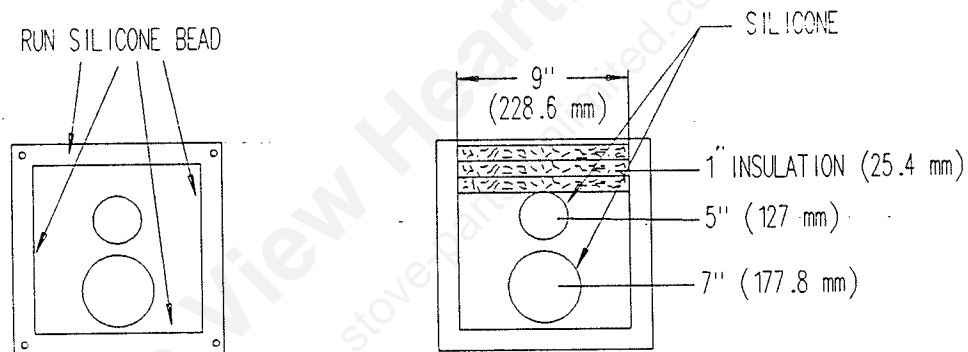

Figure 7
7. Taking the three pieces of insulation 1" (25.4mm) thick, 9" (228.6mm) wide, 12" (304.8mm) long provided with unit, measure and cut it the thickness of your exterior wall. Slide into position above 5" (127mm) exhaust pipe from the outside in. See Figure 7.
8. Next, take exterior faceplate position over pipes, slide until it fits flush against wall. Make a light pencil mark around edge of faceplate, take off faceplate and apply a 1/4" (6.35mm) to 3/8" (9.52mm) bead of silicone on the inside of pencil mark all the way around. After this is done slide the faceplate back into position and secure to wall. Apply a bead of silicone around each pipe where they protrude through the exterior faceplate. See figure 7.